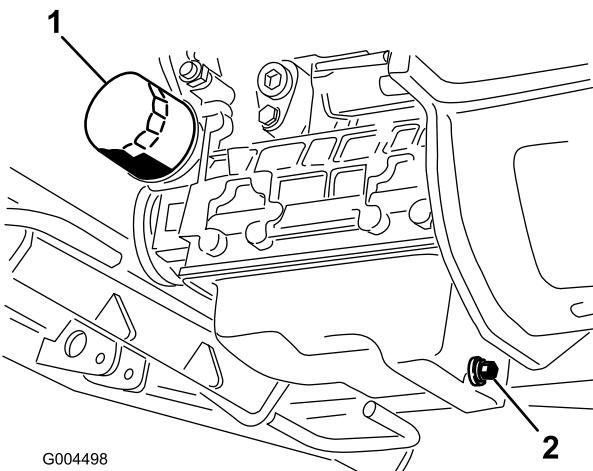

Figure 61
- 6. Remove and replace the oil filter (Figure 61).
3. Set a drain pan under the oil pan and in line with the drain plug (Figure 61).